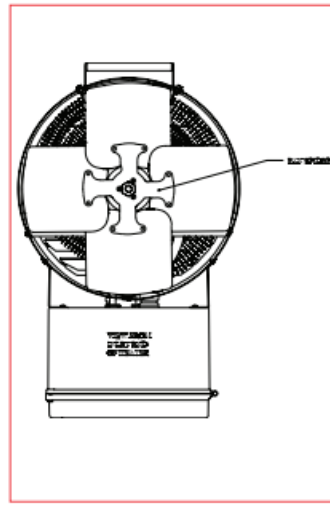

Figure 8
2. Replace fan with factory-supplied fan. Install the fan such that the “spider” of the fan (see Figure 8) faces the outside of the heater (i.e., facing away from the motor). The spider should be visible from the rear of the heater (as shown in Figure 8).